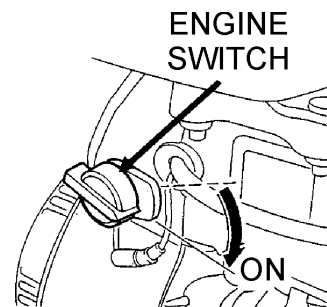

Figure 24. Engine ON/OFF Switch (ON Position)
5. Place the **engine ON/OFF switch** (Figure 24) in the "ON" position.